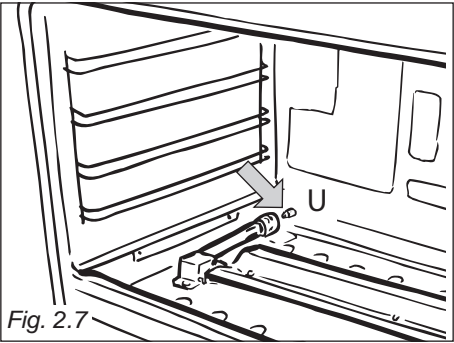

Fig. 2.7
- Withdraw the burner in the manner shown in figure 2.7 and rest it inside the oven. Take care not to damage the wire to the ignition electrode and the safety valve probe.
- Using a 10 mm box spanner, unscrew the injector "U" (indicated by the arrow in fig. 2.7) and replace with a new injector selected in accordance with the "Table for the choice of the injectors"; then replace the burner repeating the above steps in reverse order.